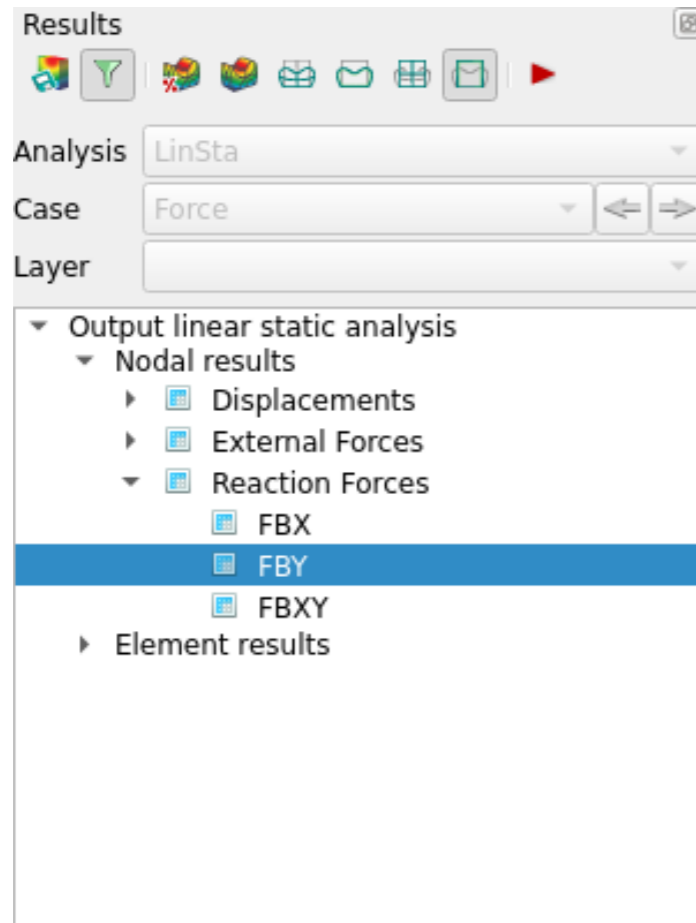

Figure 23: Results browser
**Results browser** → LinSta → Output linear static analysis → Element results → Reaction Forces → FBY  → Show vectors [Fig. 23]